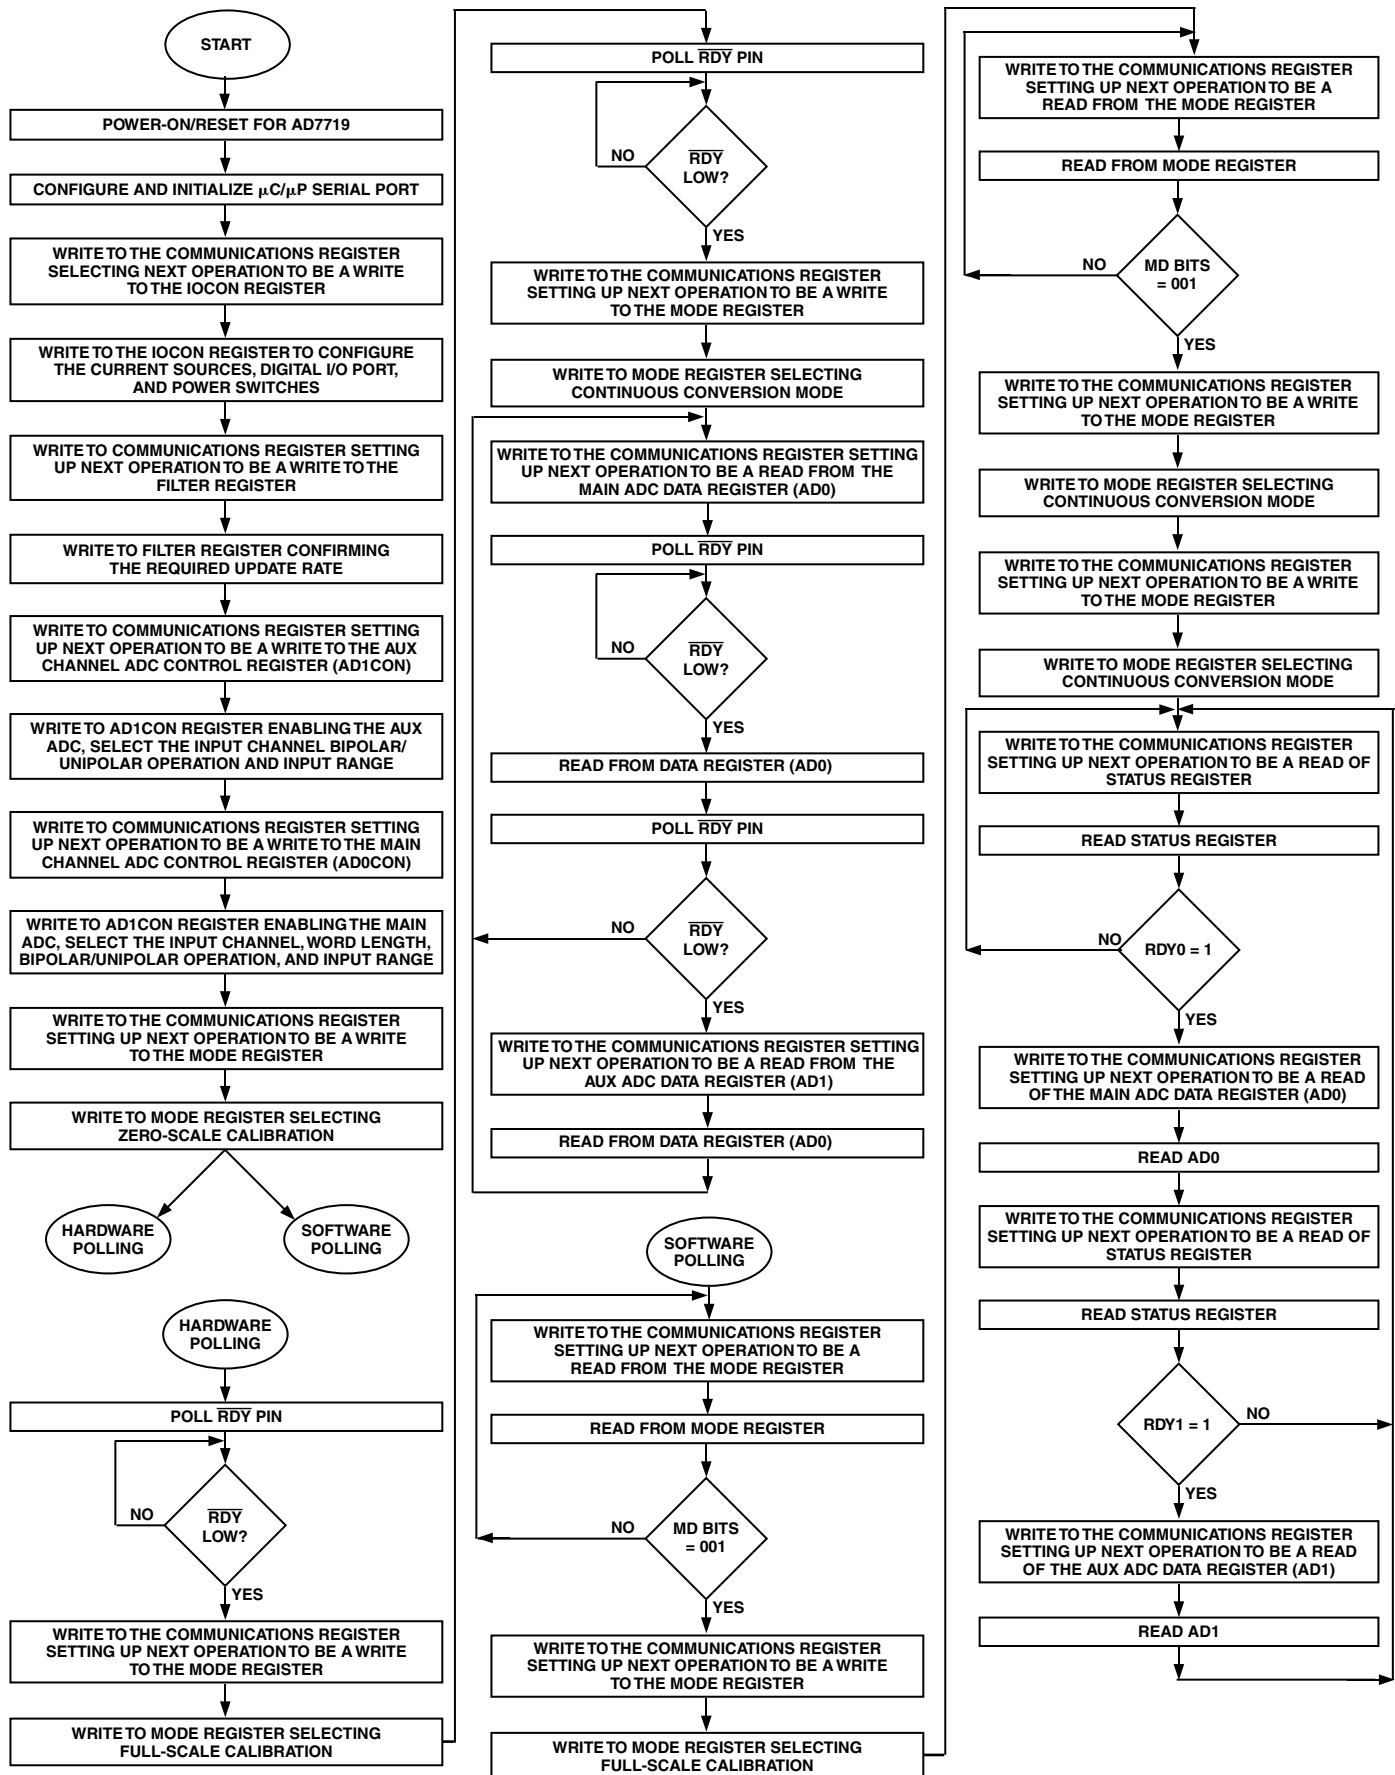
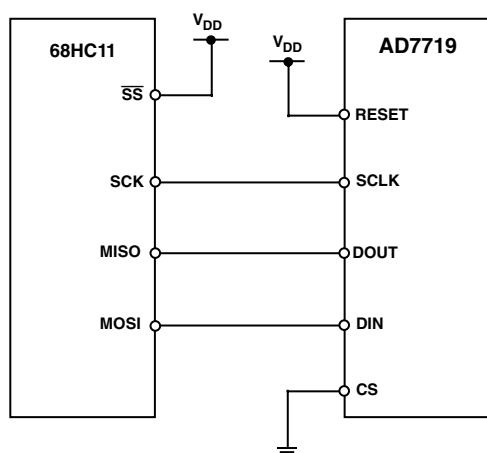

Figure 11. Flowchart for Initializing, Calibrating, and Reading Data from the AD7719 Main and Aux Channels
Figure 12. AD7719-to-68HC11 Interface
Figure 11 outlines a flow diagram of the sequence used to configure all registers after a power-up or reset on the AD7719. The flowchart shows two methods of determining when it is valid to read the data register or determine when a calibration cycle is complete. The first method is hardware polling of the RDY pin and the second method involves software interrogation of bits in the status and mode registers. The flowchart details all the necessary programming steps required to initialize the ADC and read data from the main and aux channel following a power-on or reset. The steps can be broken down as follows:
3. When the operating mode is selected, the user needs to determine when its valid to read the data in conversion mode or when the calibration is complete in calibration mode. This is accomplished either by polling the RDY pin (hardware polling) or by interrogating the bits in either the STATUS or MODE registers (software polling). Both are shown in Figure 11. It is assumed that both the main and aux ADCs are being used and calibration required. If the AD7719 is operated at the factory-calibrated conditions, a field calibration will not be required and these steps can be bypassed.
The AD7719's flexible serial interface allows for easy interface to most microcomputers and microprocessors. The flowchart of Figure 11 outlines the sequence that should be followed when interfacing a microcontroller or microprocessor to the AD7719. Figures 12, 13, and 14 show some typical interface circuits.
Figure 12 shows an interface between the AD7719 and the 68HC11 microcontroller. The diagram shows the minimum (3-wire) interface with \overline{CS} on the AD7719 hard-wired low. In this scheme, the RDY bits of the Status Register are monitored to determine when the Data Register is updated. RDY0 indicates the status of the Main ADC channel while RDY1 indicates the status of the Aux channel. An alternative scheme, which increases the number of interface lines to four, is to monitor the \overline{RDY} output line from the AD7719. The monitoring of the \overline{RDY} line can be done in two ways. First, \overline{RDY} can be connected to one of the 68HC11's port bits (such as PC0), which is configured as an input. This port bit is then polled to determine the status of \overline{RDY} . The second scheme is to use an interrupt driven system, in which case the \overline{RDY} output is connected to the IRQ input of the 68HC11. For interfaces that require control of the \overline{CS} input on the AD7719, one of the port bits of the 68HC11 (such as PC1), which is configured as an output, can be used to drive the \overline{CS} input.